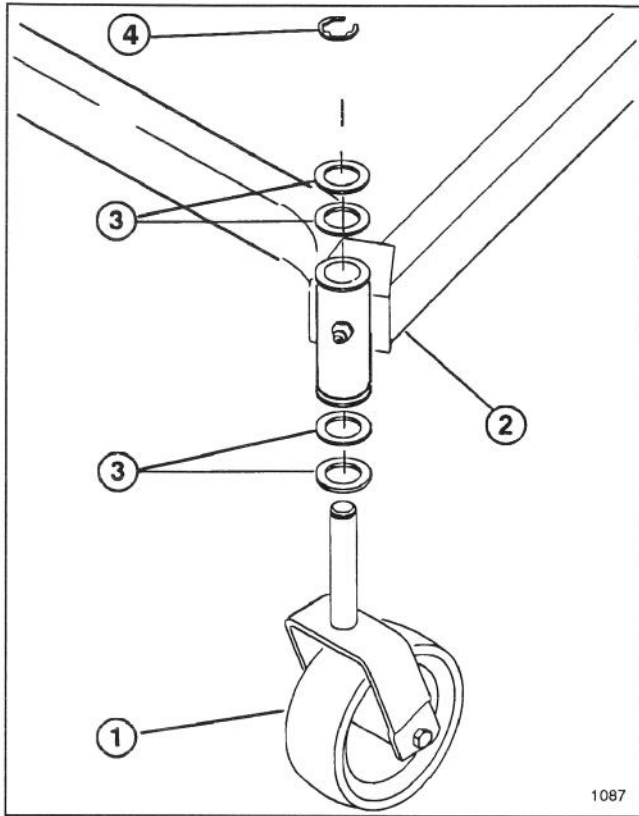

Figure 1
1. Place two (2) thrust washers onto castor wheel shaft (Fig. 1).
2. Insert shaft into carrier frame mounting tube. Install two (2) more thrust washers and secure with retaining ring (Fig. 1).